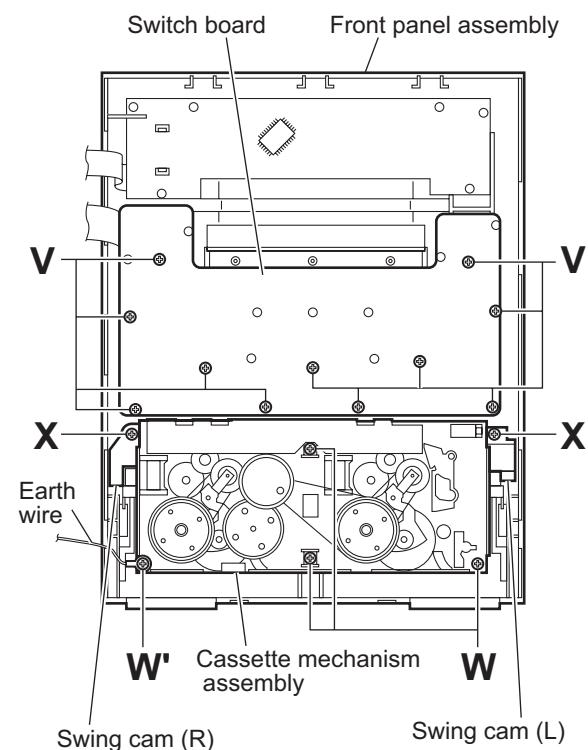

Fig.24
- (3) From the inside of the front panel assembly, remove the eleven screws **V** attaching the switch board. (See Fig.24.)
- (4) Take out the switch board from the front panel assembly.
(See Fig.24)